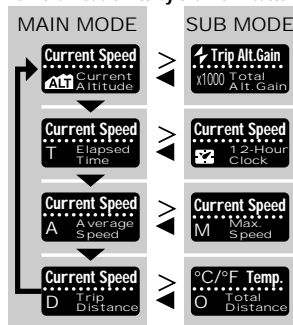

Fig.9
- With each press of this button, the main mode shifts as shown in Fig. 9. In this mode, the main display (upper line) always shows the current speed.